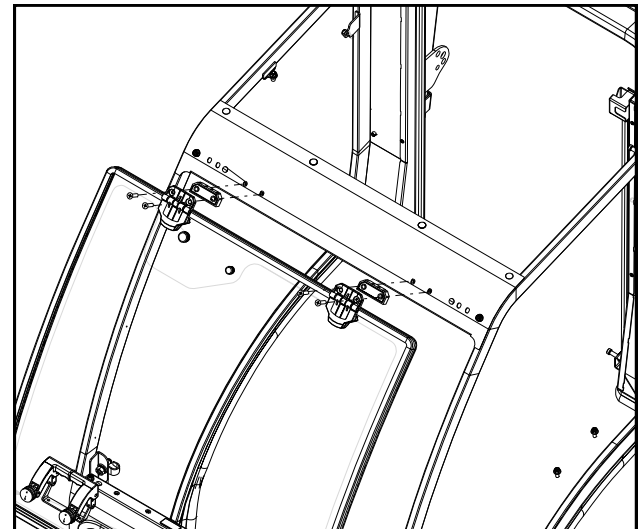

Fig. 12.1 (windshield installation)
**12.1** Install the windshield to the windshield support using (1) plastic spacer block underneath each upper plastic hinge to space it off the windshield support. Snug fasteners, but **do not tighten fully**. See fig. 12.1.